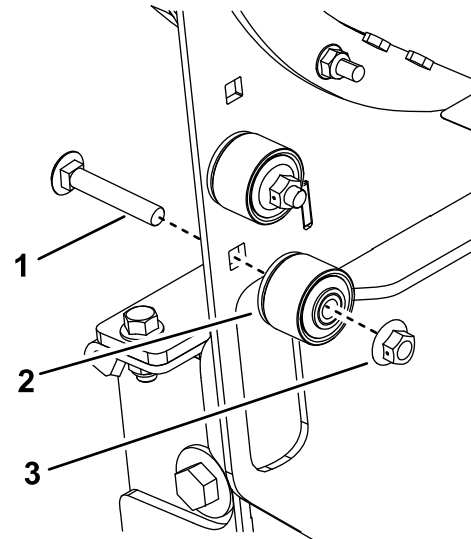

**Figure 30**
- Remove both bushing assemblies (Figure 30).